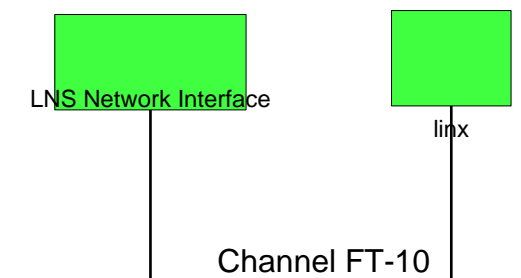

Figure 160: The L-INX has been added to the drawing.
- Finally, you should get the device added to your drawing as depicted in Figure 160.